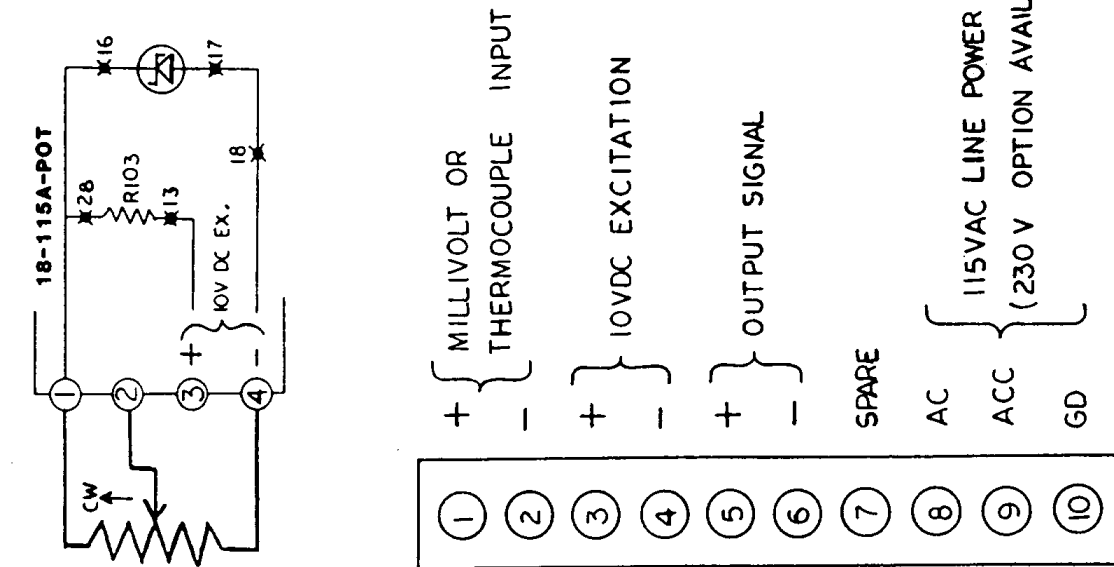
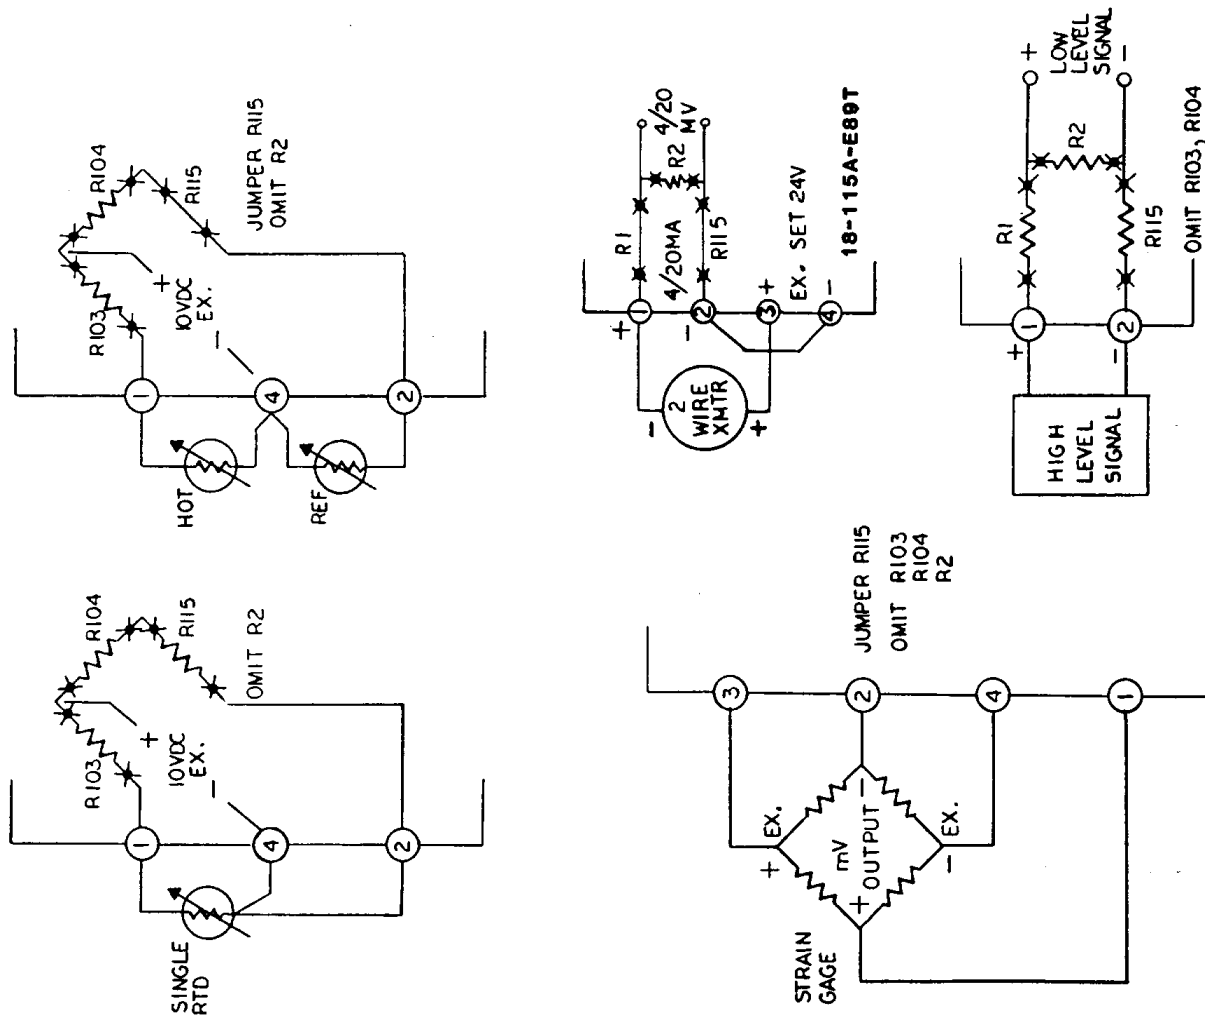

FIGURE 3-5 - FIELD WIRING TERMINALS
FIGURE 3-4 - EXTERNAL WIRING OF DIFFERENT TYPES OF INPUT SIGNALS
- 3.2 Connect line power to #8 (AC) and #9 (ACC) PWR terminals. Terminal #10 is wired to the case for line power ground (GD). Wire the thermocouple lead wires or the millivolt source to #1 (+) and #2 (-) input terminals. For units with reverse operation, the input lead wires have been reversed internally. For other types of input refer to FIG. 3.4 for input signal wiring. Output signal is obtained from terminals #5 (+) and #6 (-). Refer to FIG. 3.5 for typical wiring of input, output and line power.